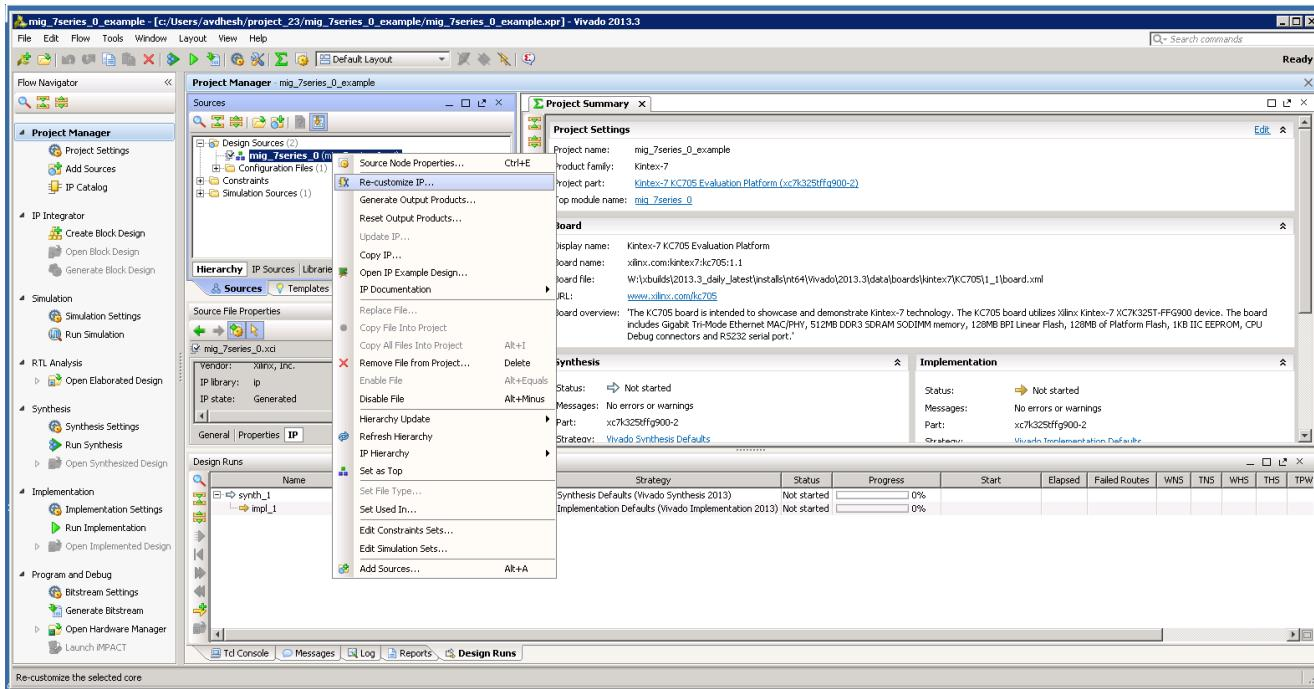

Figure 5-28: Recustomize IP
12. Recustomization of the MIG IP can be done by using the Recustomize IP option. It is not recommended to recustomize the IP in the example\_design project. The correct solution is to close the example\_design project, go back to original project and customize there. Right-click the XCI file and click **Recustomize IP** (Figure 5-28) to open the MIG GUI and regenerate the design with the preferred options.